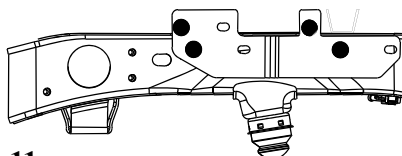

Figure 11 8' Bed Hole Pattern
5. Position the hitch frame brackets using the hole patterns shown in figure 11 and loosely install the 5/8 conical toothed washers and 5/8 hex nuts.
8. **For 6300 & 8339** use the **outer** slots in the rearward cross member as a template to drill 5/8" diameter holes through the truck bed as shown in Figure 11. Due to the fuel tank, not all holes can be drilled from under the vehicle, but should be done later from inside the bed.